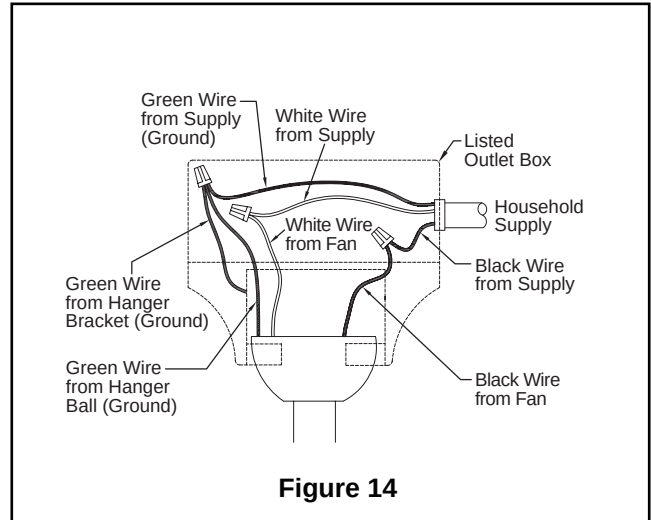

Figure 14
1. Connect the green grounding lead from the downrod/hanger ball assembly and the green grounding lead from the hanger bracket to the supply grounding conductor (this may be a bare wire or wire with green colored insulation). Securely connect wires with wire connectors. Securely connect the white fan motor wire to the white supply (neutral) wire using wire connector. Securely connect the black fan motor wire to the black supply wire using wire connector (Figure 14).